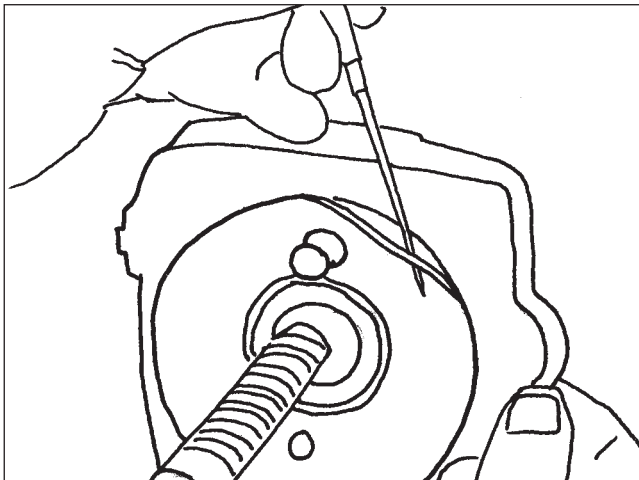

Figure 107
17. After removal of the 24 balls, the input shaft and bearing cap assembly may be removed from the piston. At this time the seal ring and tetra seal may be removed and discarded (Figure 107).